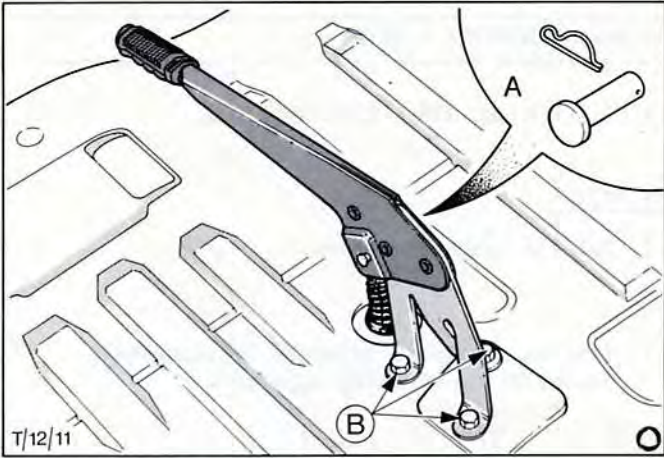

Fig.66. Handbrake mounting bolts.
4. Remove handbrake lever mounting bolts and remove handbrake (Fig.66).
6. Align relay link rod and handbrake lever, insert clevis pin and spring clip, refit gaiter, Fig.66.